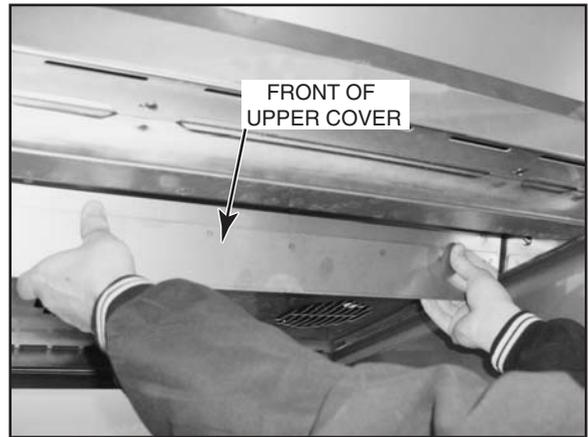

Figure 36
3. To remove the upper cover from the three pins, front, and three pins, rear, grasp the front edge of the cover with both hands (Figure 36). Press with both thumbs to release the front pins. Pull forward to escape the three pins in the rear and lower the upper cover. Manually clean the upper side of the upper cover in a sink. Rinse off both sides and wipe dry.